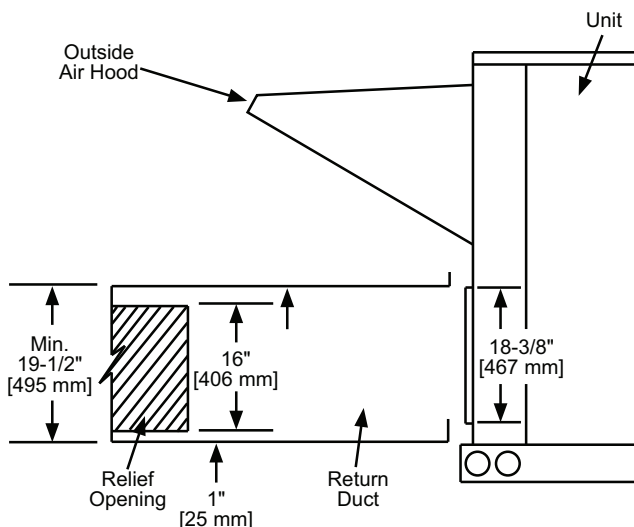

Fig. 28 — Relief Damper
1. Install the field provided horizontal ductwork onto the unit. Duct height must be at least 19-1/2 in. (495 mm) high, however the duct can be no taller than the top of the relief opening in the bottom panel, or airflow into the outside air hood will be restricted. See Fig. 28.
2. Cut a 16 in. x 36 in. (406 mm x 914 mm) opening in the return duct for the relief damper (see Fig. 28).